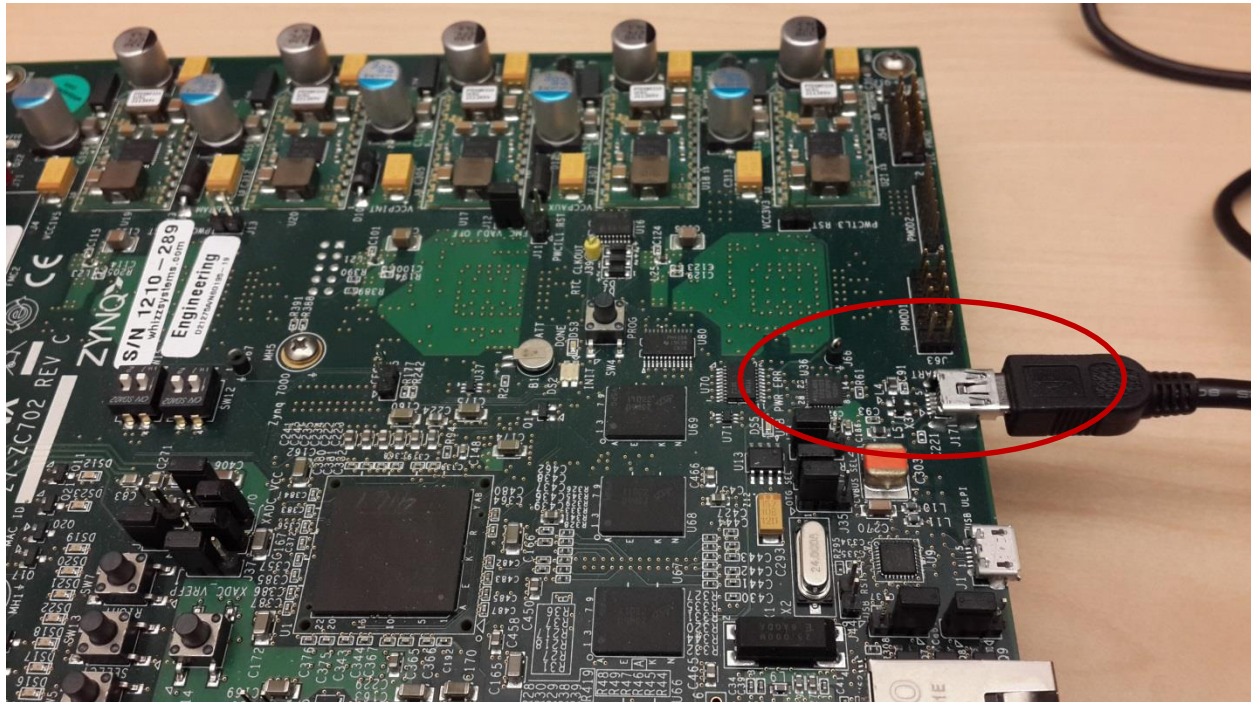

Figure 24. Location of the UART port
1. Make sure the mini USB cable is connected to the UART port as shown in Figure 24.